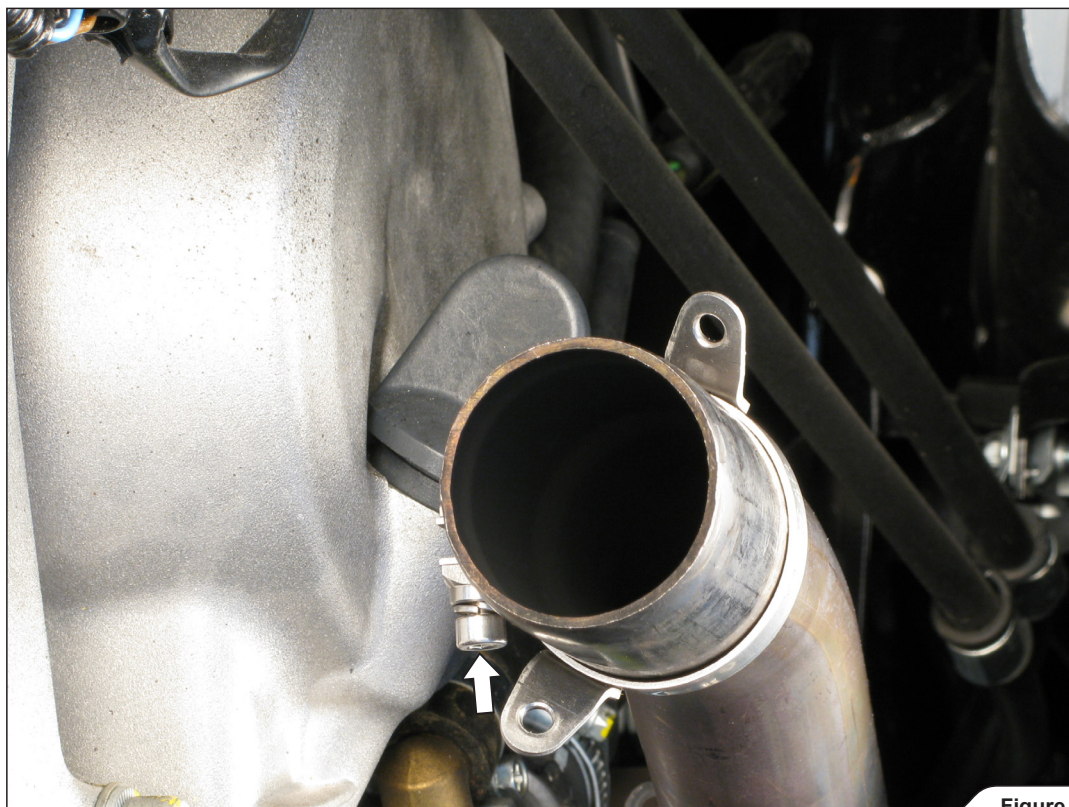

Figure 5
- Slide the clamp with spring hooks onto the stock header and **hand** tighten the clamp's bolt (Figure 5).